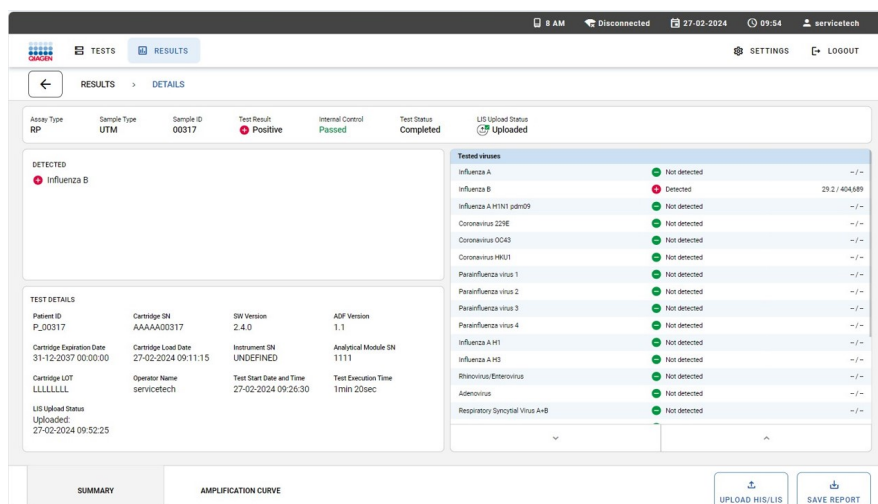

Figure 77. HIS/LIS Upload Status when viewing a test result.
3. The Upload Status is shown in the upper part of the screen and in the **TEST DETAILS** section. The **TEST DETAILS** also contain additional information such as the upload date and potential errors that occurred during upload (Figure 77).